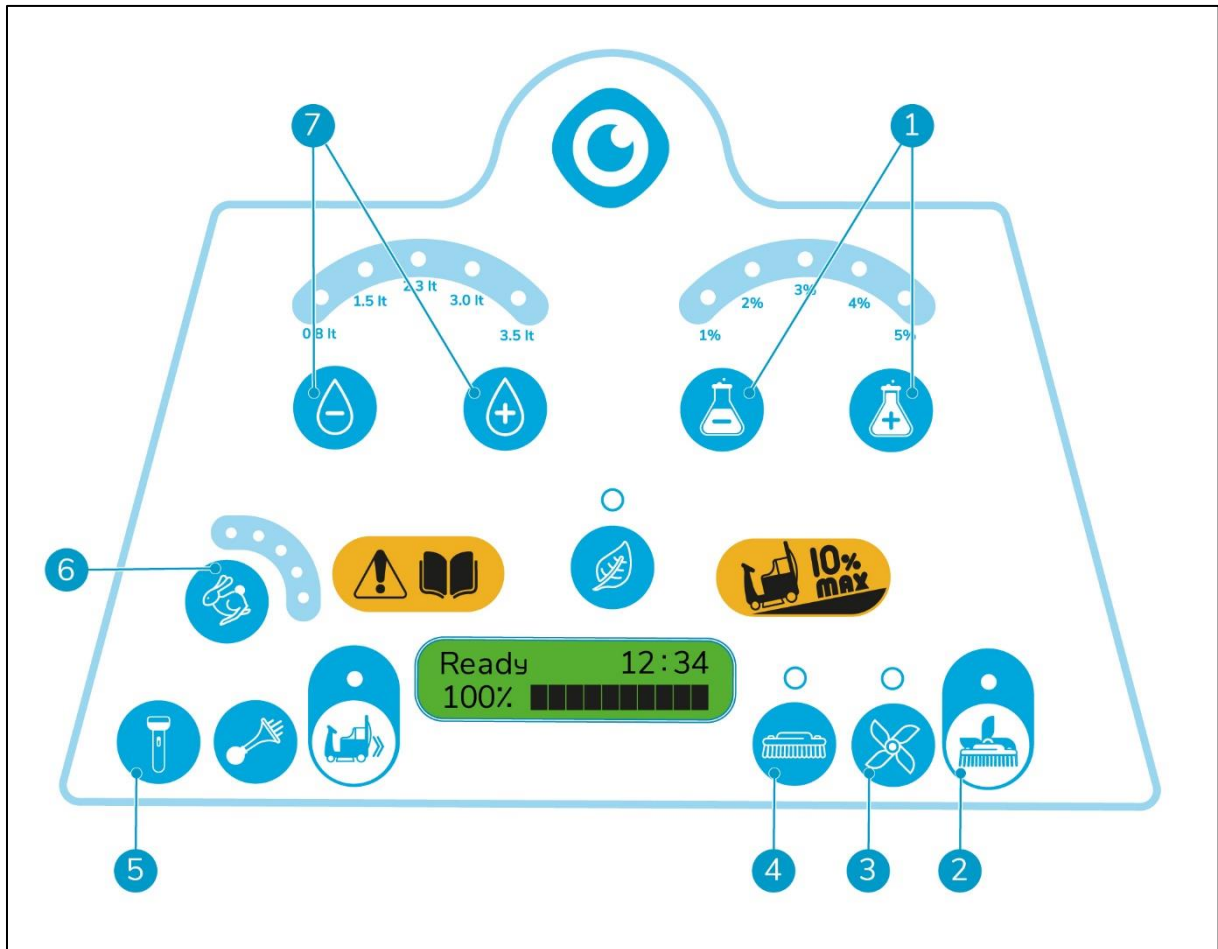

Figure 27
1. Choose the amount of water to use. Push the water touch buttons (Figure 27, pos 7) for more or less water. There are five different levels, see section 2.1.
3. Push the detergent touch buttons (Figure 27, pos 1) for more or less detergent. There are five different levels, see section 2.1.
- disc brush motor ON/OFF (Figure 27, pos 4) or;
- vacuum motor ON/OFF (Figure 27, pos 3) or;
- disc brush and vacuum motor ON/OFF (Figure 27, pos 2).
5. Turn on the working lights (Figure 27, pos 5).
6. Choose your speed (Figure 27, pos 6).